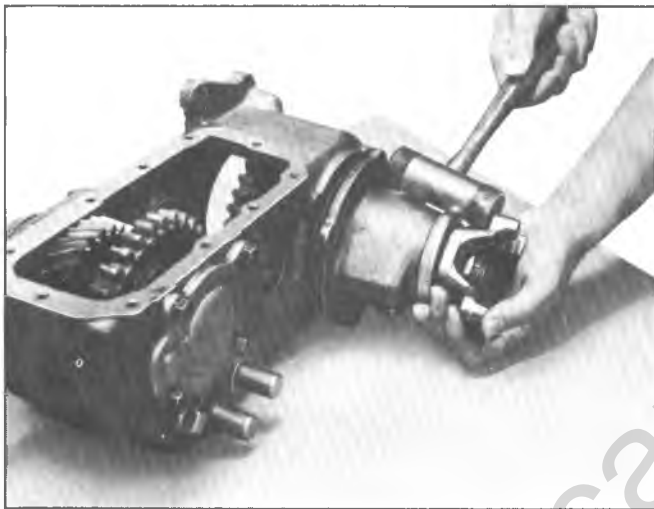

Fig. 3D-Removing Rear Output Shaft Sub-Assembly
6. Remove bolts attaching rear output shaft subassembly to transfer case and remove complete unit from case as shown in Figure 3D.